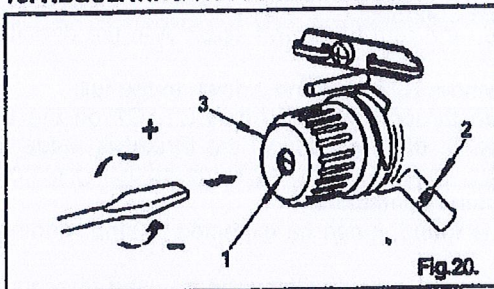

Fig.20.
Using a screwdriver in slot of stud (1), Fig.20, regulate take-up spring tension by turning stud (1), as required.
To adjust the amount of take-up spring movement, loosen screw (2), Fig.20, and set take-up spring height by turning the entire tension assembly (3) toward left or right, as required. Securely tighten screw (2).
图二十 Figure 20